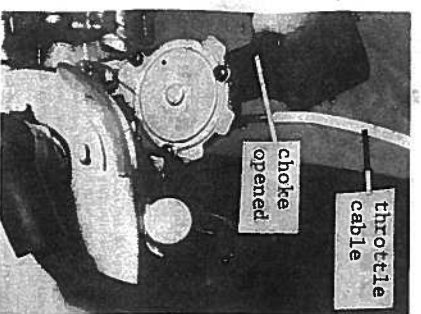

FIG. 15
- d. Slowly pull starter rope until engaged with starter dogs, then pull sharply 18 to 24 inches. Continue until "POP" is heard, move choke lever to half, continue to pull starter rope until engine starts. After engine starts move choke lever to open position, release throttle trigger slowly (figure 15). Place toe of shoe on rim or side wall of tire when starting from a standing position (figure 18).